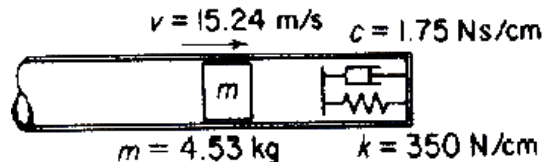

Figure P6(B).2
2. A piston of mass 4.53 kg travels a tube with a velocity of 15.24 m/s and engages a spring and damper as shown in **Figure P6(B).2** below. Determine the maximum displacement of the piston after it engages the mass-damper assembly.
4. An automobile suspension system is to be modeled as a single degree of freedom system as shown in **Figure P6(B).4**. The mass of the wheel and tire is lumped together, $M = 20$ kg. The tire stiffness, K_t is 20 kN/m. The suspension spring stiffness K_s is 180 kN/m. The viscous damping coefficient of the shock absorber is 200 N.s/m. Determine the following parameters: